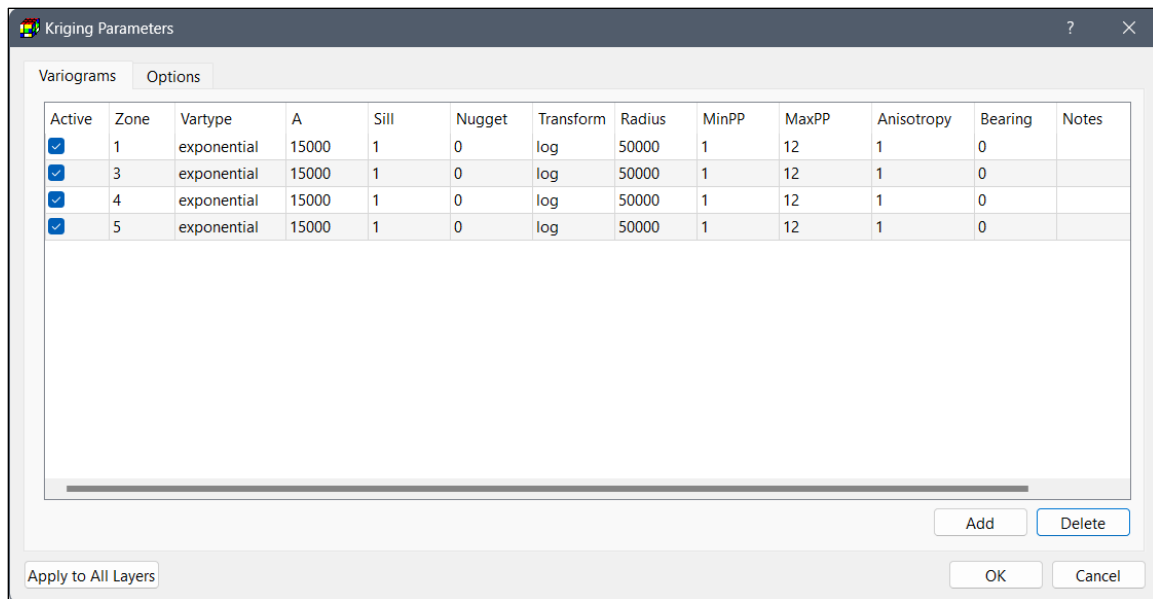

Figure 30. The Variogram tab of the Kriging Parameters dialog box
The Kriging Parameters dialog box (Figure 30) allows you to define variogram and interpolation parameters for zones within a model layer. These parameters are essential for using the ppk2fac1 & fac2real programs or the PLPROC utility, based on your selection in the Kriging Tool dropdown in the Preferences dialog box.
1. Variogram Tab (Figure 30): Define variogram settings for each zone: